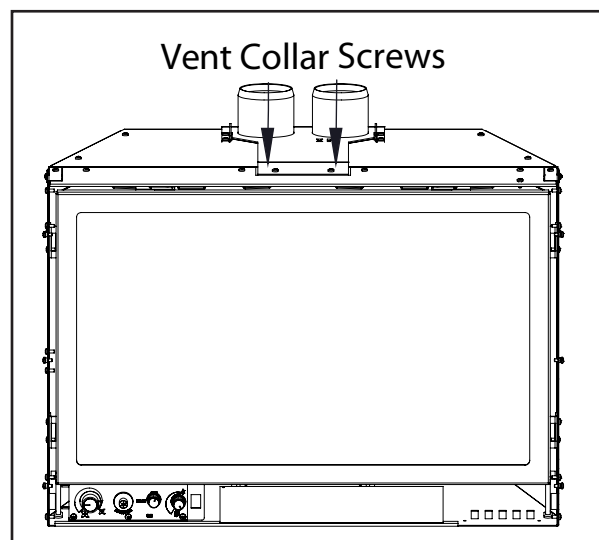

Figure 24: Vent Collar Plate Screw Location.
8. Apply a bead of stove cement sealant to the Ø3" (76mm) pipe of the exhaust vent terminal. Slide the flex liner onto the vent terminal and secure with three (3) sheet metal screws evenly spaced.
9. Place a bead of high temperature silicone on the intake collar of the vent terminal. Slide the Ø3" (76mm) flex intake liner over the collar, secure the flex liner with three (3) sheet metal screws evenly spaced. Secure the vent terminal to the chimney using adequate sealant, and according to local building codes.
10. If the fireplace opening is lower than 24" (610 mm), remove the vent collar plate from the top of the insert by unscrewing the two (2) T-20 Torx screws located on the center top of the stove above the door opening (see Figure 24). Slide the collar plate backwards. Properly secure the vent collar plate to the flexible vent pipe liner(s) previously installed in the chimney. Be careful not to over-stretch the liner(s).
11. Apply a bead of stove cement sealant to the top section of the Ø3" (76mm) exhaust vent collar plate. Slide the Ø3" (76mm) flex vent over the flue collar and secure with three (3) sheet metal screws evenly spaced.
12. Place a bead of high temperature silicone on the intake collar of the fireplace, slide the Ø3" (76mm) flex intake liner over the collar, secure the flex liner with three (3) sheet metal screws evenly spaced.